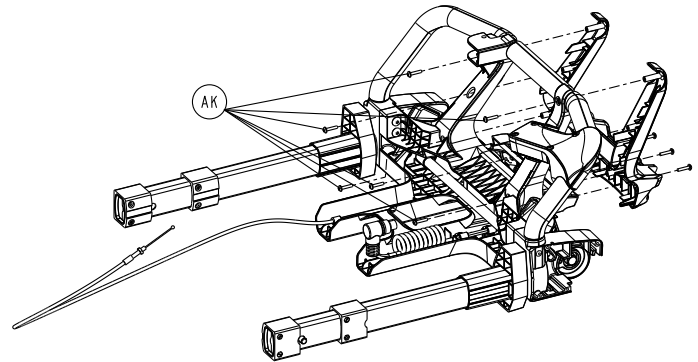

Figure 88 – Remove the foot end housing screws
8. Using a T20 Torx driver, remove the six round washer head tapping screws (AK) from the back of the foot end housing (Figure 88). Save the screws.